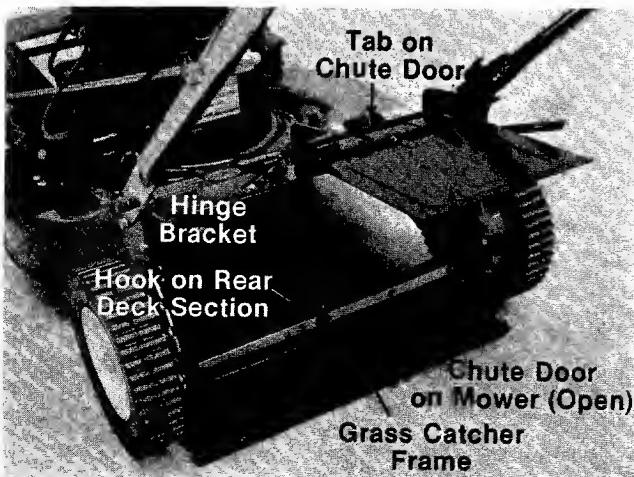

FIGURE 12.
1. Attach the grass catcher frame to rear of the mower by hooking grass catcher into hook on rear deck section. See figure 12.
Figure 12 is shown with the chute door open for photo clarity only.
2. Lift the rear of grass catcher up and slip the grass catcher frame into the slots on the hinge bracket. See figures 12 and 13.